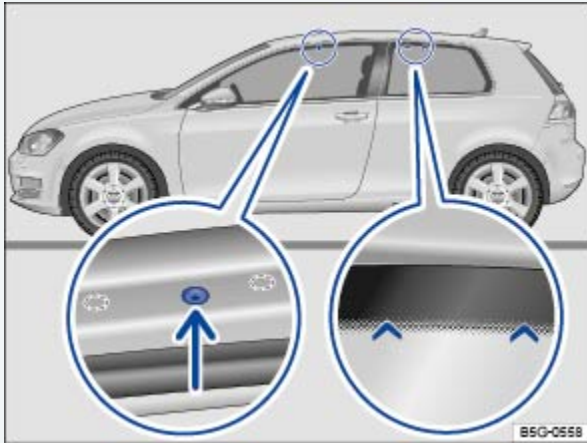
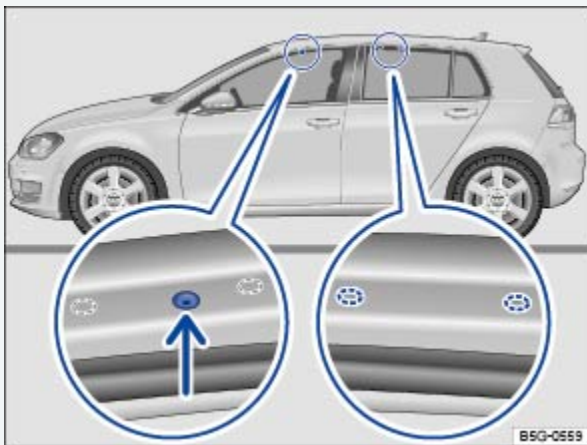

Fig. 107 Mounting points for the base carrier and roof rack on 2-door vehicles.
Fig. 108 Mounting points for the base carrier and roof rack on 4-door vehicles.
The front mounting holes are on the underside of the roof frame. They are sealed with plastic screws that must be removed before installation ⇒ Fig. 107 (magnified view on left). The holes are only visible when the door is open. The rear markings for the base carrier are above the rear side windows ⇒ Fig. 107 (magnified view on right).
The front mounting holes are on the underside of the roof frame. They are sealed with plastic screws that must be removed before installation ⇒ Fig. 108 (magnified view on left). The rear markings for the base carrier are on the underside of the roof frame ⇒ Fig. 108 (magnified view on right).
- Secure the roof rack base carrier only at the attachment points shown in the illustration ⇒ Fig. 107 or ⇒ Fig. 108.